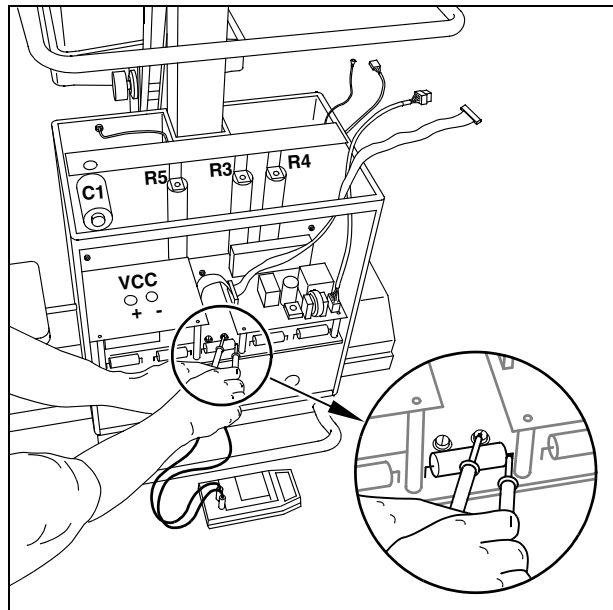

Fig. 12
- Measure the actual voltage present in the capacitor bank with the DVM at test point - VCC and +VCC on the inverter board D960 or (more accessible) on the capacitor board D970 at the + connecting point of the C3 capacitor and on the right-hand side of fuse F3 (see Fig. 12).
- Unscrew the three Allen screws (2/Fig. 12).
- Pull out the connectors X3 and X9 (3/Fig. 12) on the charging board D950.
- Remove flat ribbon cable X20 (4/Fig. 12) from the inverter board D960 and from the charging board D950.
- **In this case, discharge the affected capacitor with the discharging resistor R5 (Fig. 12).**